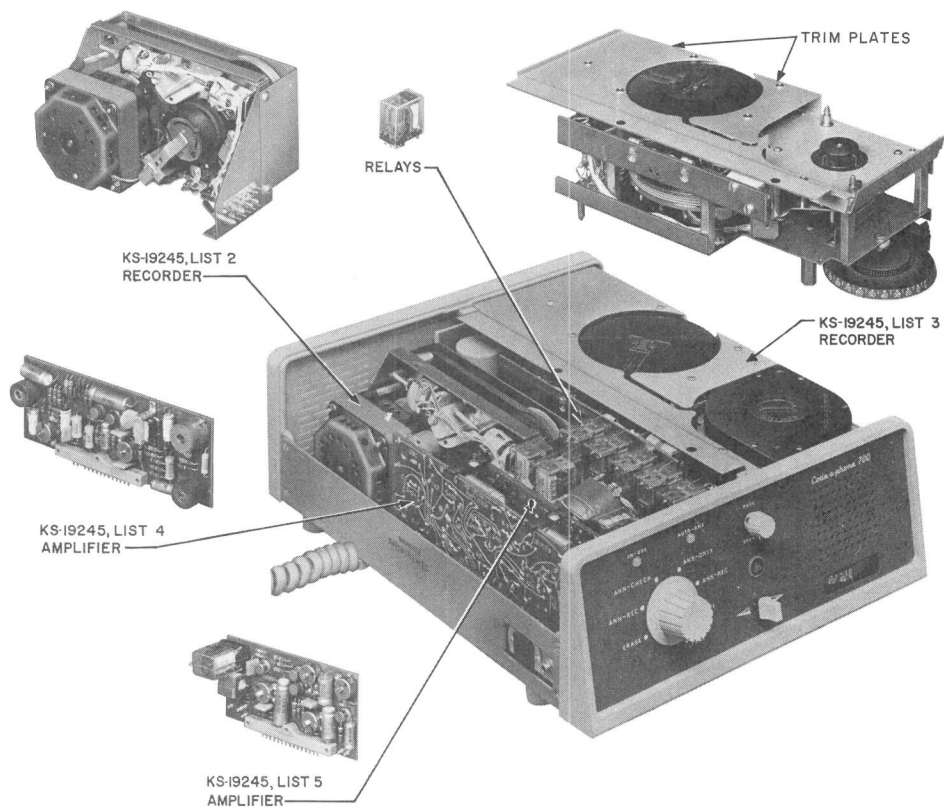

Fig. 3—KS-19245, List 1 Telephone Answering Set, Top Cover Removed
Do not lift or pry on the trim plates (Fig. 3).
- (1) Remove top cover (2.01).
- (2) Remove List 2 recorder (Fig. 3):
- (1) Remove top cover of answering set (2.01).
- (2) Slide wire spring retainer from relay.
- (3) Remove relay from its plug-in socket (Fig. 3).